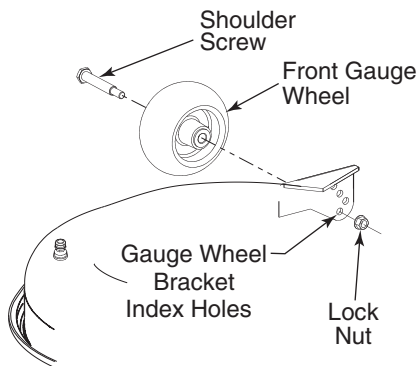

Figure 6-9
- Remove the lock nut securing one of the front gauge wheel shoulder screws to the deck. Remove the gauge wheel and shoulder screw. See Figure 6-9.